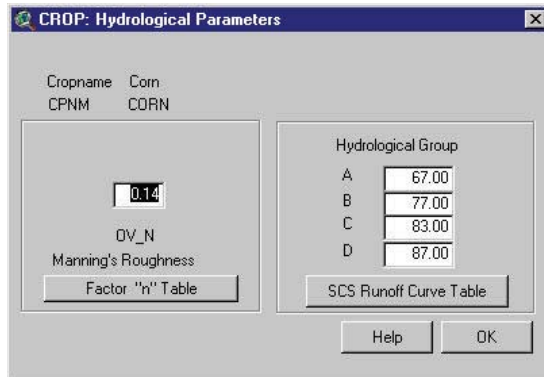

Figure 14.34
- e. The CROP: Hydrological Parameters dialog box is displayed when data for a new land cover/plant is saved (Figure 14.34).